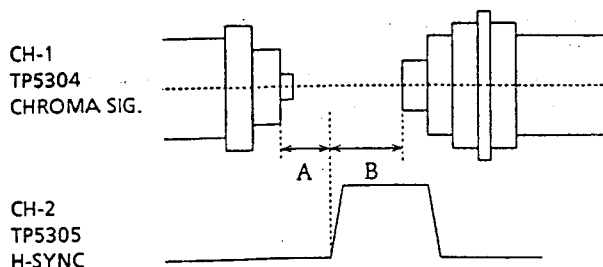

Figure 2-14.
2. Connect a dual-trace oscilloscope with delayed sweep to test points CH-1~TP5304 (Chroma sig.) ~ TP5301 (GND) and CH-2~TP5303 (H-sync sig.) ~ TP5301 (GND) and make sure that the chroma signal out put is just as shown in Fig 2-14.